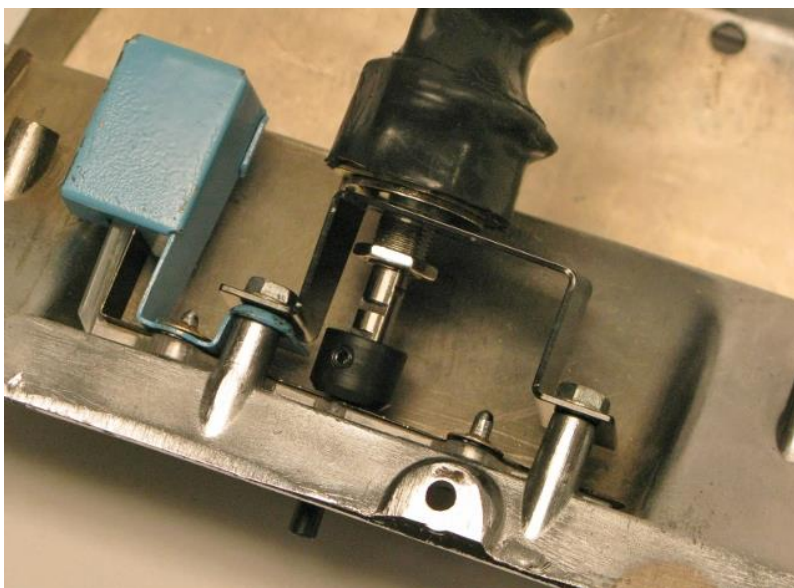

Figure 13 – Install Wiper Switch & Extension
20. Install the DSE wiper switch into the switch adapter and slide the hex nut on over the switch shaft. Then slide the switch shaft into the switch extension. Start to thread the hex nut onto the threads of the wiper switch. Align the set screw with the flat on the switch shaft and tighten the set screw (Figure 13). **NOTE:** Make sure the set screw locks onto the flat on the switch.